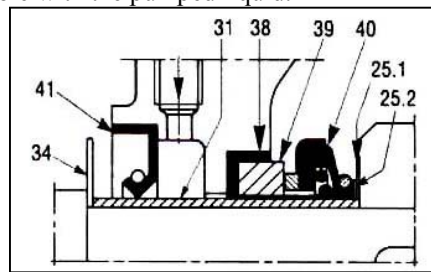
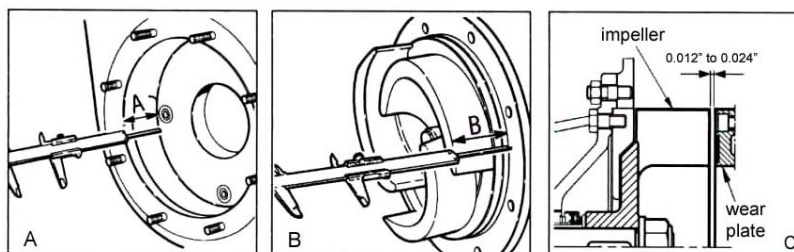

Figure 22
Figure 23
- ❖ Remove the lip seal (figure 22, #41).
- ❖ Wash the head (figure 30, #19) with solvent to remove any residue of grease and clean the seats and the outer surface of the lip seal (figure 22, #41).
- ❖ Mount a new lip seal (figure 22, #41) in the head (figure 30, #19). To facilitate assembly, smear a little lubricant compatible with the pumped fluid on the seat and the outer surface of the lip seal (figure 22, #41).
- ❖ Slip the sleeve (figure 22, #31) and seal onto the shaft and push to overcome the slight resistance offered by the lip seal (figure 22, #41). Take care that the mechanical seal (figure 30, #25) does not slip off of the shaft sleeve.
- ❖ Mount the seal support ring (figure 22, #34). Push this forward until it is possible to reassemble the impeller key (figure 30, #60).
In all models, the distance between the top of the impeller blades and the surface of the wear plate must be between 0.012" and 0.024" (see figure 23). To achieve this, dimensions A & B in figure 23 must be as nearly as possible equal. To this end, use the shims (figure 22, #25.1 & 25.2) supplied with spare mechanical seal (figure 30, #25). These shims (figure 22, #25.1 & 25.2) are used to move the impeller (figure 30, #03) further forward if it is too far from the casing or too near the head (figure 30, #19). The shims (figure 22, #25.1 & 25.2) should be mounted between the seal support ring and the impeller (see figure 22). Further adjustments can be carried out using casing gaskets (figure 30, #43). The presence of a case gasket 0.020" thick then creates the correct distance (see figure 23).